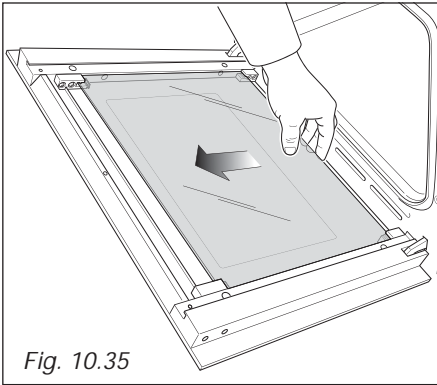

Fig. 10.35
- Gently unlock the middle pane of glass from the bottom clamps by moving it as in fig. 10.35.